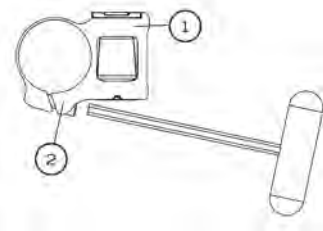

Fig. 16
- Install armrest receiver (1) (Fig. 16) on the upper tube of the frame at a distance of 160mm (6 1/4") from the rear tube of the frame.
- Slightly tighten screws (2) to allow the clamp to rotate.
- Insert armrest or sideguard into receiver (1).
- Rotate receiver (1) until the sideguard is perpendicular to the seat.
- Tighten screws (2) firmly.